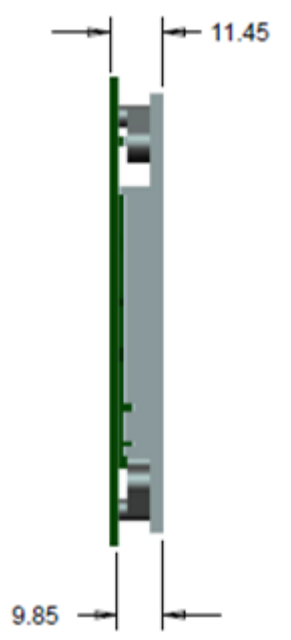

Figure 13: Heat Spreader installed on the board.
Figure 13 shows the side view of the heat spreader installed on the Board.
- Press to attach as shown in Figure 13.